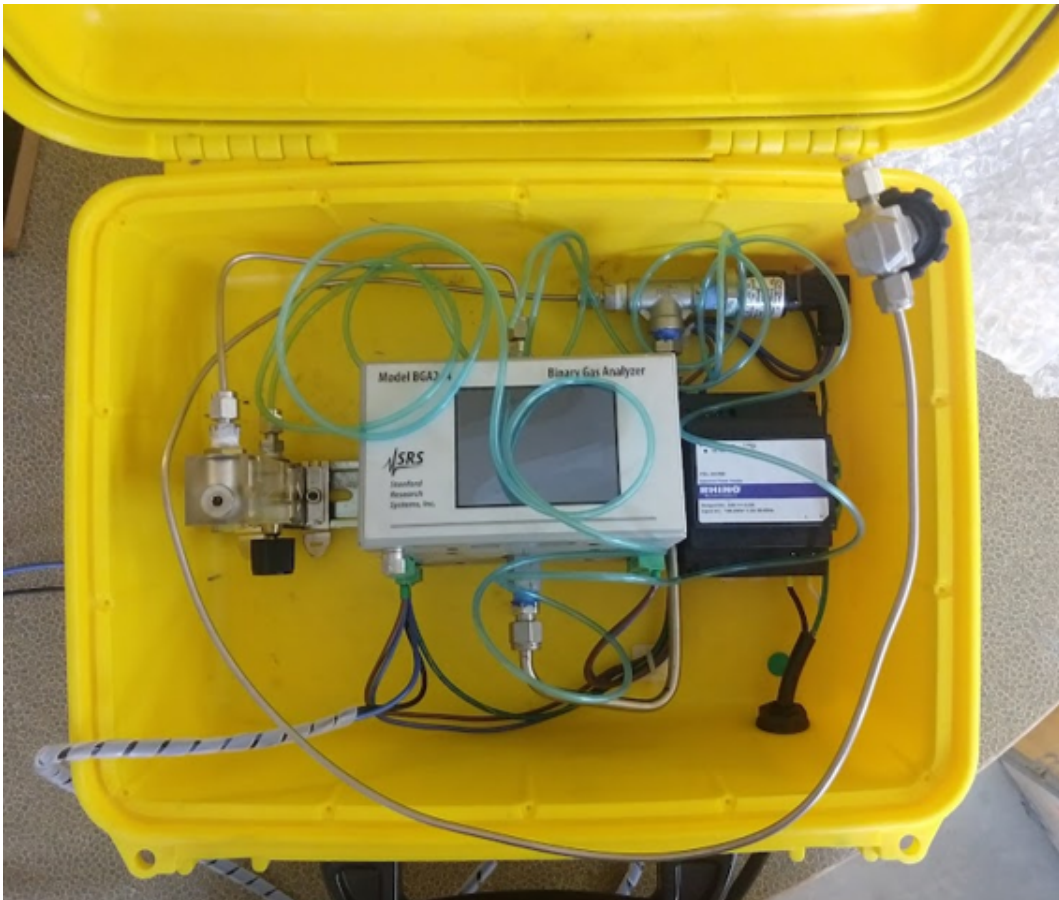

Figure 2: BGA purity meter with 1/8 tube input (attached to the bottom of the rotometer on the left)
- Portable BGA purity meter with 1/8" rotometer inlet connection. Pictured in Figure 2